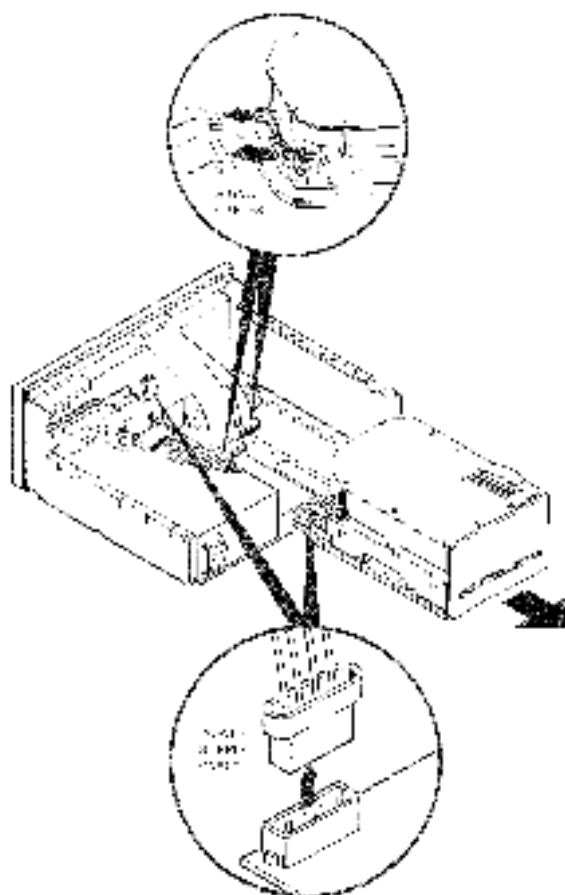

Figure 2-74 Removing Optional Third Disk Drive
8. Disconnect the power supply cable and the signal cables from the disk drive (Figure 2-74).